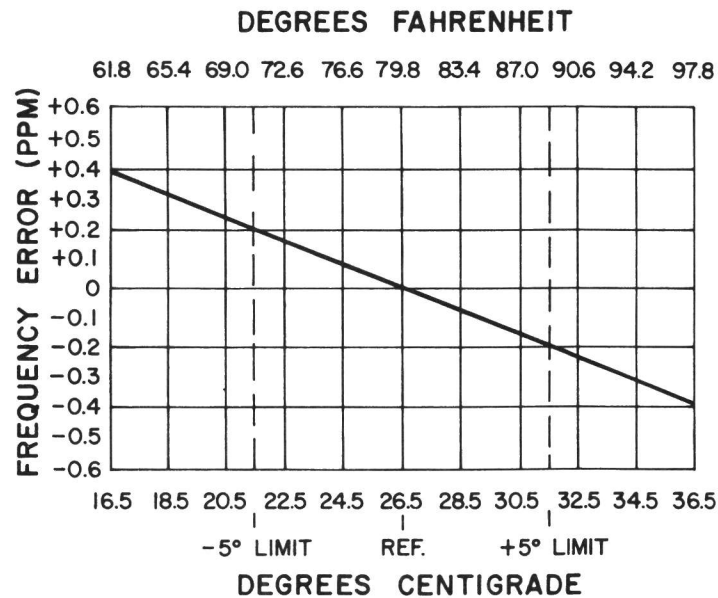

Figure 6 - Frequency Characteristics Vs. Temperature
To SET ICOM frequency using "beat frequency" method, the temperature should be at 26.5°C (79.8°F). If the temperature is not 26.5°C, then offset the "on frequency" signal (at the receivers input), as a function of actual temperature, by the frequency error factor (in PPM) shown in Figure 6.
- Maintain the radio at 26.5°C (±10°C) and offset the oscillator, as a function of actual temperature, by the frequency error factor shown in Figure 6.
Maintain the unit at 26.5°C (±5°C) and offset the oscillator, as a function of actual temperature, by the frequency error factor shown in Figure 6.